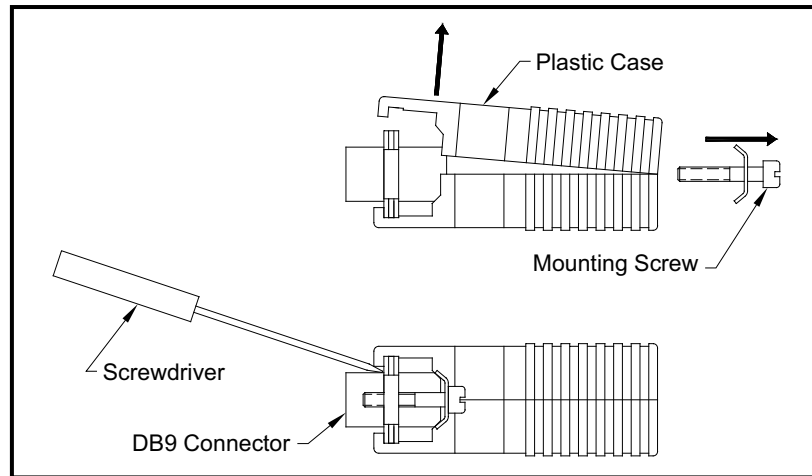

Figure 10: Opening the Converter Case
5. Use a small screwdriver to pry open the *plastic case* of the serial interface converter, as shown in Figure 10 on page 76.